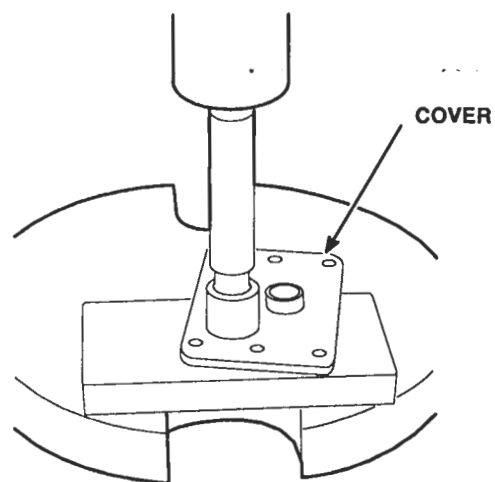

Figure 4. Needle Bearing Removal from Governor Cover
- g. If needle bearing removal is necessary, place the inner face of the cover over the opening in the bed of the press. Place remover J 21967-01 on top of the bearing and press both bearings out of the cover (Figure 4.)